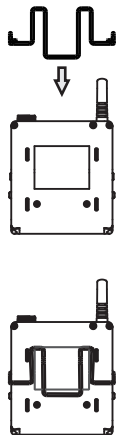
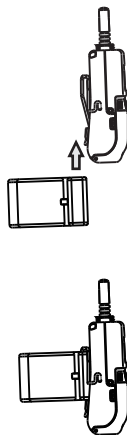

Fig. 39-1
Fig. 39-2
(A) Assemble the beltclip with the transmitter, Fig. 39-1, and install the holder on the beltclip, Fig. 39-2.